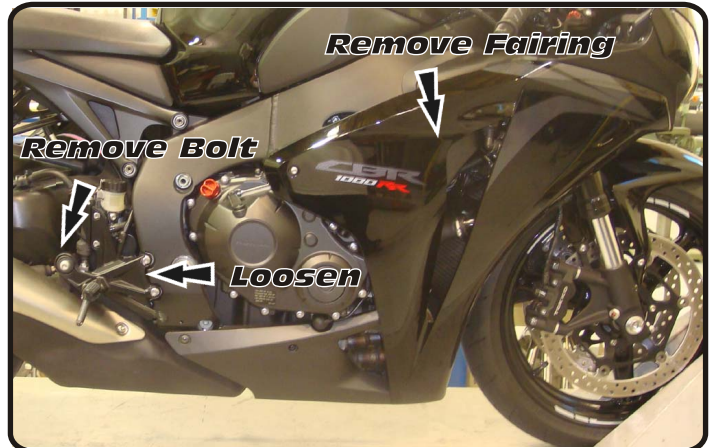

Fig. 1
-Remove left, right and lower fairings. (Fig. 1) (Refer to factory service manual for detailed instructions.)